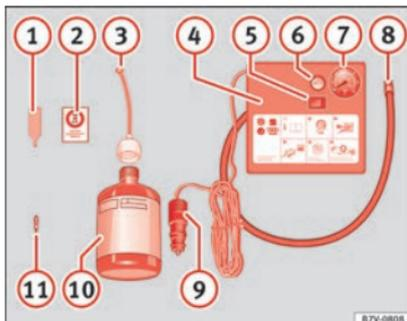

Fig. 103 Standard representation: contents of the anti-puncture kit.
The tyre mobility system is located underneath the floor covering in the boot. It includes the following components »» Fig. 103:
Screw the inflator tube »» Fig. 103 ⑧ again and check the tyre pressure on the gauge ⑦.